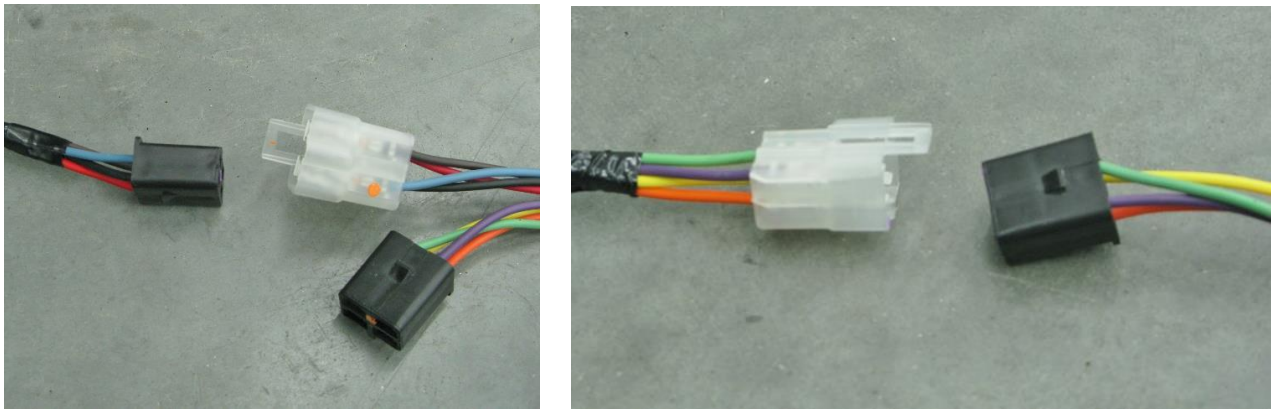

Figure 38 – Plug in Module to Harness
36. Once the module is secured, plug the black connector from the module into the clear connector with the corresponding orange, yellow, green and purple wires. Plug the clear connector from the module into the black connector with the corresponding red, black, blue and brown wires on the new harness (Figure 38 on the next page).